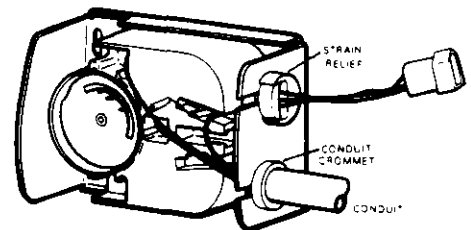

Figure 33 (4-048)
11. Remove fan/limit control, 3/4"-strain relief bushing. Remove conduit and then conduit grommet from original fan/limit control knockout. See Figure 33.